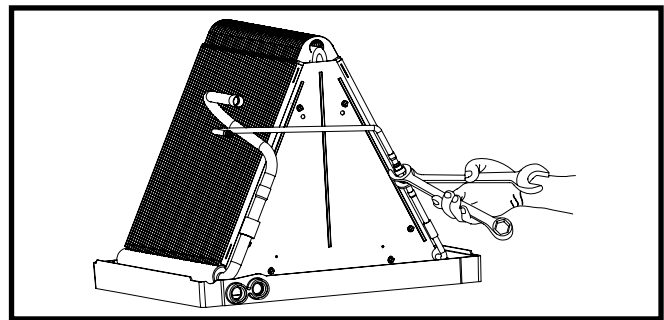

Figure 2. Loosening of Nut & Distributor Body
1. Using two wrenches, loosen the nut and distributor body as shown in Figure 2. Turn the assembly nut counter-clockwise until the orifice body halves are separated.